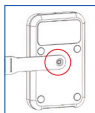

Figure 1
2. Align hole in strap to screw thread (*figure 1*).